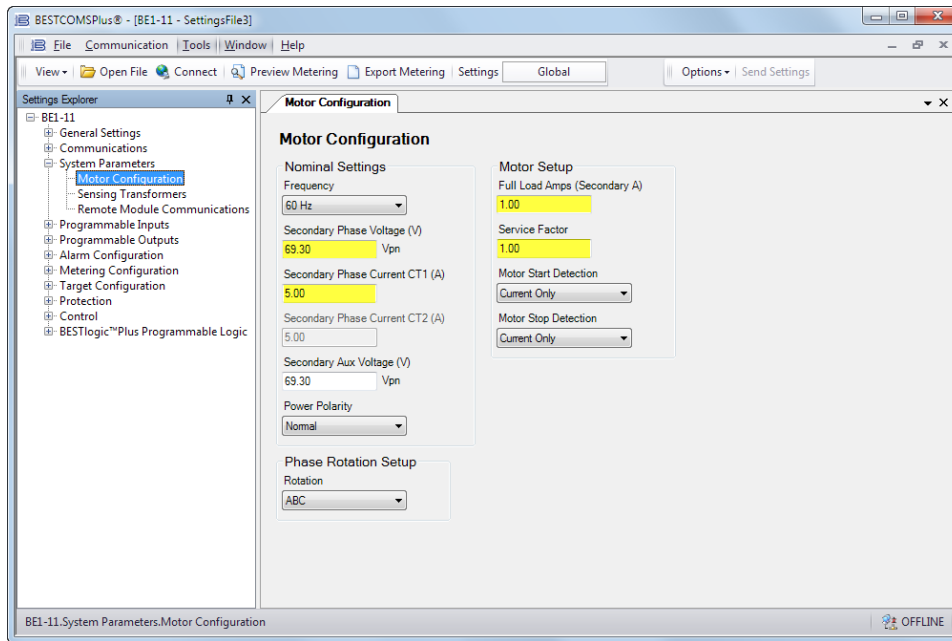

Figure 2-10. Motor Configuration Screen
- Step 5: In the Settings Explorer, click the "+" next to BE1-11. This expands the sub menus in the tree. Now expand System Parameters and select the Motor Configuration screen. See Figure 2-10.